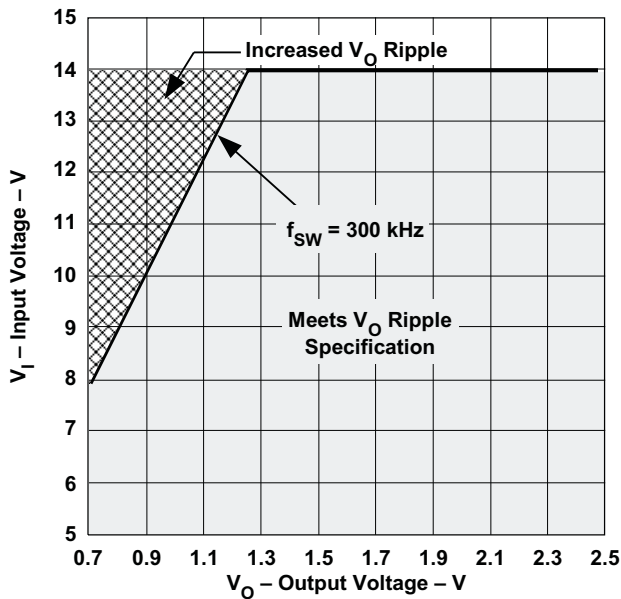
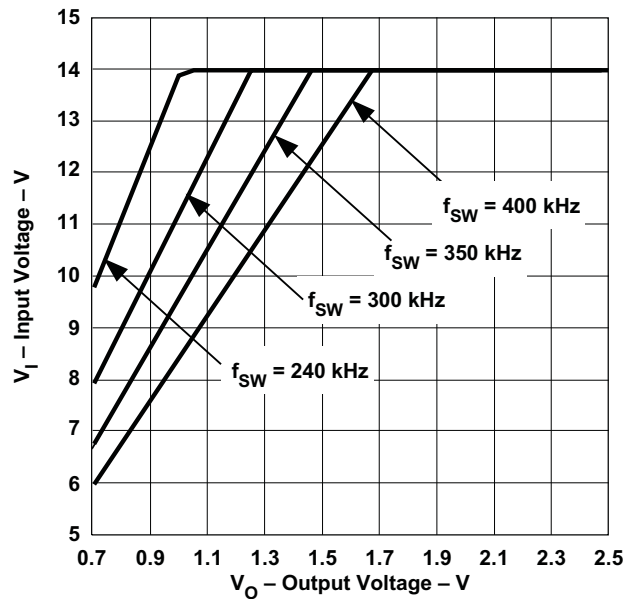

Figure 25. V_O Ripple Regions at 300 kHz
Figure 26. V_O Ripple Regions
Synchronizing to a higher frequency and operating with a low duty cycle may impact output voltage ripple. When operating at 300 kHz, Figure 25 shows the operating region where the output voltage ripple meets the electrical specifications and the operating region where the output voltage ripple may increase. Figure 26 shows the operating regions for several switching frequencies. For example, a module operating at 400 kHz and an output voltage of 1.2 V, the maximum input voltage that meets the output voltage ripple specification is 10 V. Exceeding 10 V may cause an increase in output voltage ripple. As shown in Figure 26, operating below 6 V allows operation down to the minimum output voltage over the entire synchronization frequency range without affecting the output voltage ripple. See the ELECTRICAL CHARACTERISTICS table for the synchronization frequency range limits.
- A. For Figure 25, operation above a given curve may cause the output voltage ripple to increase (typically $2\times$).
- B. For Figure 25, when operating at the nominal switching frequency refer to the 300 kHz plot.
- Changed made Figure 25 viewable 27
- Changed made Figure 26 viewable 27